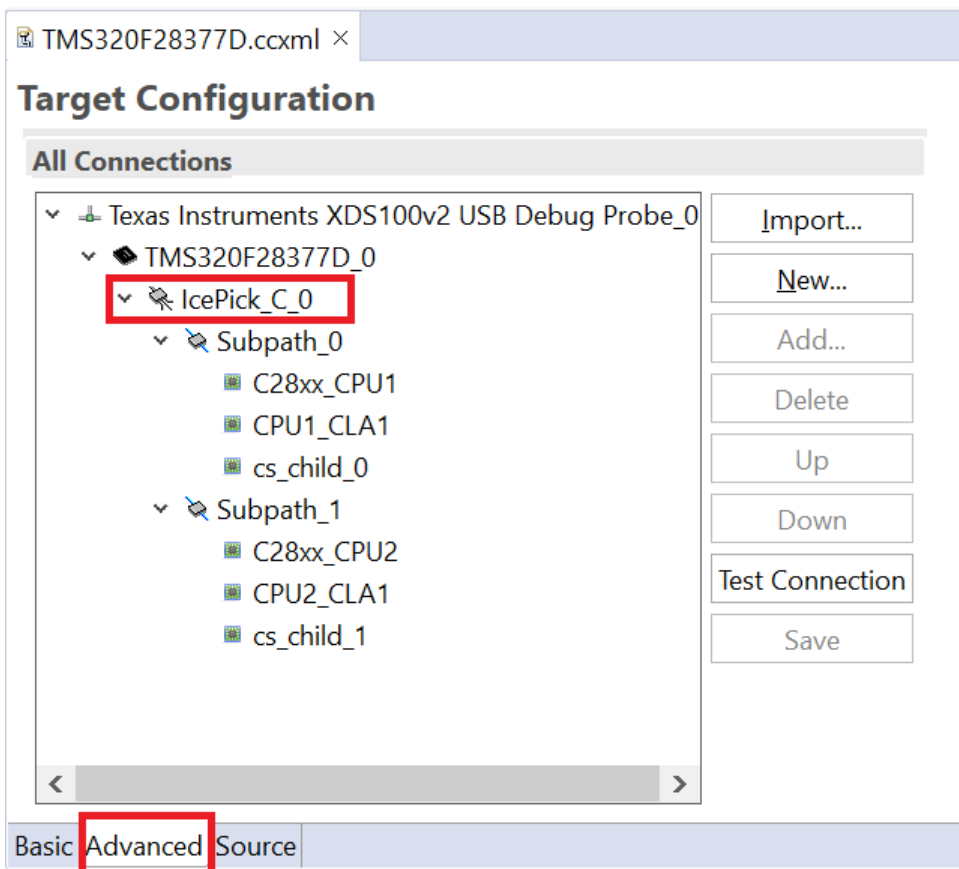

Figure 3-1. Target Config Advanced View
The JTAG standard allows for a single JTAG debug probe to make a daisy-chain connection with multiple devices. In practice, various constraints will limit the number of target devices that can be connected in a chain. The XDS-class debuggers all have a limited number of instruction register (IR) bits that they can circulate before they expect to see the bits returned. Many older C2000 devices require 38 IR bits to be circulated per device, while all newer devices only require six IR bits to be circulated because of their ICEPick JTAG route controller. At the time of writing this application note, the following devices have ICEPicks: F2807x, F28M3x, F2837xD, F2837xS, F28004x, F2838x, F28002x, F28003x, F280013x. If you would like to check if your device has an ICEPick, you can use Code Composer Studio to look at the advanced tab of your target configuration, as shown in Figure 3-1.